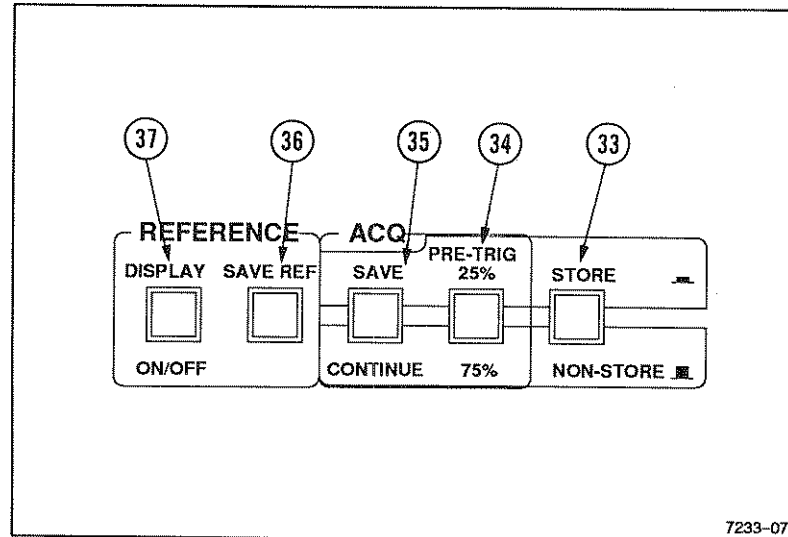

Figure 3-5. Storage controls.
See Figure 3-5 for locations of items 33 through 37 and Figure 3-2 for location of item 38.
- ③③ **STORE/NON-STORE Switch**—Selects either the NON-STORE or the STORE waveforms for display. The STORE acquisition system is turned off while NON-STORE is selected so that the last waveform acquired in STORE mode remains in memory. NON-STORE is selected when the button is out; STORE mode when pressed in.